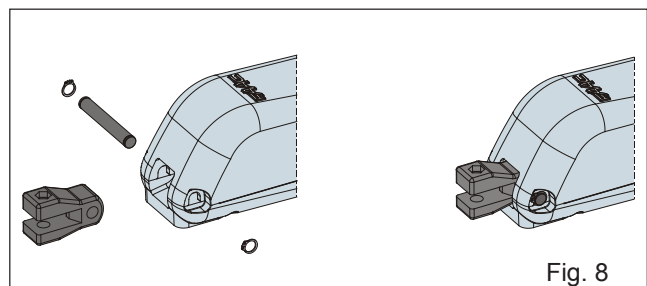

Fig. 8
2. Assemble and attach the rear fitting to the operator (Fig. 8).